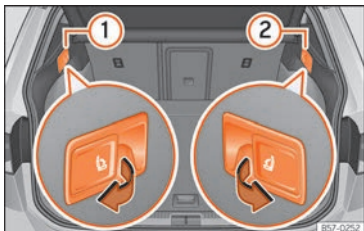

Fig. 113 In the luggage compartment: levers for remote release of the left part ① and right part ② of the rear seat backrest.
- Pull the unlocking lever »» **Fig. 113** of the part of the backrest to fold down.